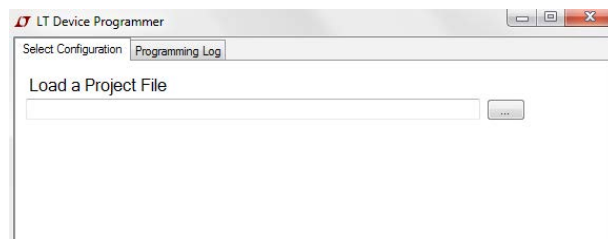
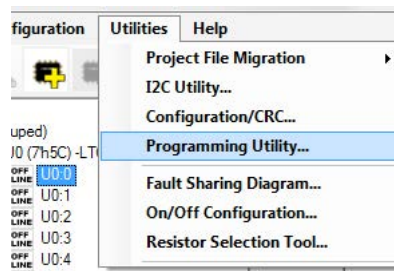

Figure 8. Selecting a .proj File to Program
Figure 9. Utilities > Programming Utility from the Menu
- Launch the LTpowerPlay software from your PC. The device programming utility shown in Figure 8 should pop up automatically. If it does not, then select the Utilities>Programming Utility from the menu shown in Figure 9.
- Click “...” next to the selection box and select a .proj file from your system to program the device. See Figure 8.